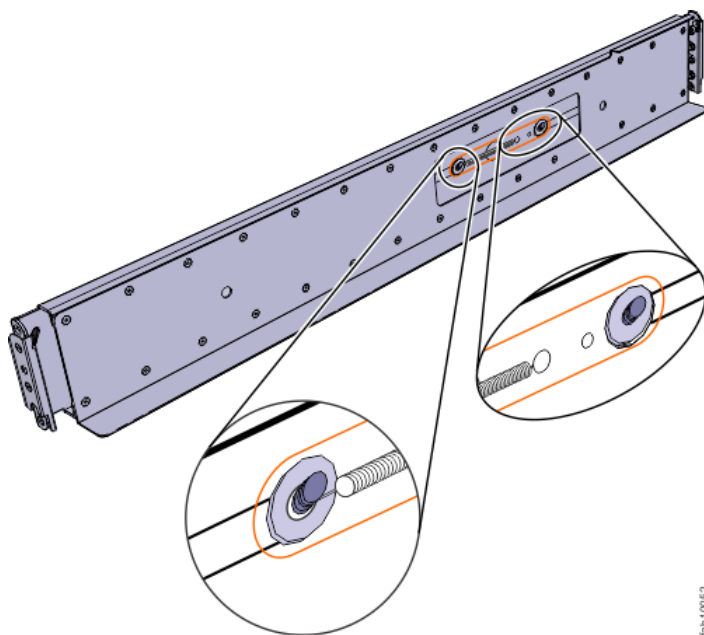

Figure 33. Installing the rail spring
- b) Push one looped end of a spring over one stud on the inside of the rail. (See Figure 33 on page 69.)